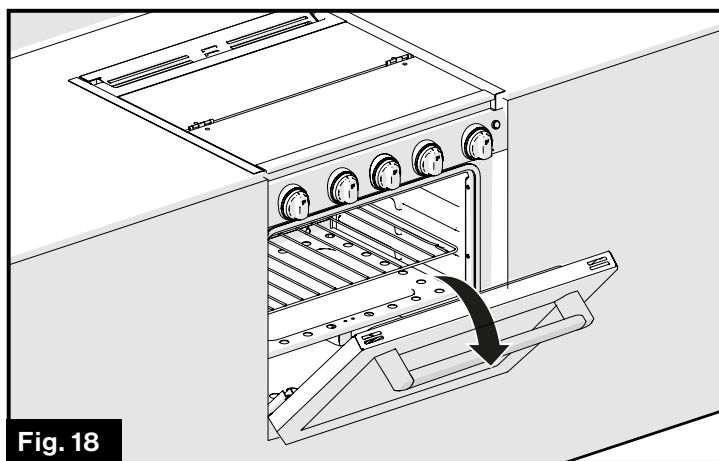

Fig. 18
1. Pull the oven handle to open the door. If you smell gas **STOP!** Refer to the installation section and follow the instructions as listed for the appliance. (Fig. 18)